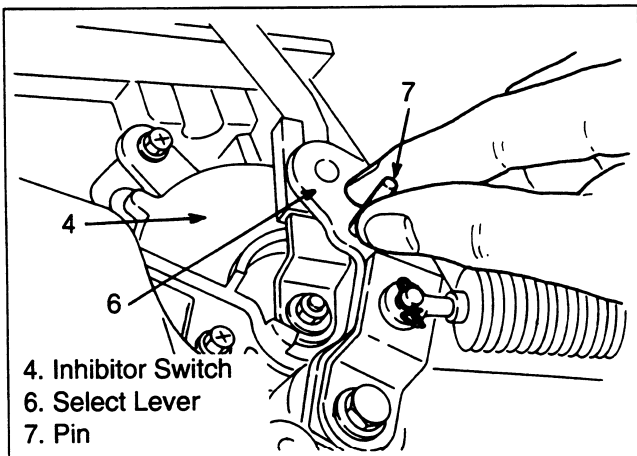

Figure 16. Adjusting Inhibitor Switch
**Adjust (Figure 16)**
- 2) Place the select lever (6) in the "N" range.
- 3) Insert a 4 mm (0.15 in) diameter pin (7) through the select lever and inhibitor switch (4) alignment holes. Be sure that the pin is perpendicular to the holes.